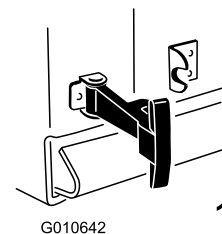

Figure 10
6. Hook the front flexible latch on the chute to the retaining clasp welded to the front wall of the deck (Figure 10). Hook the flexible latch on the back of the chute to the retaining clasp welded to the rear wall of the deck.